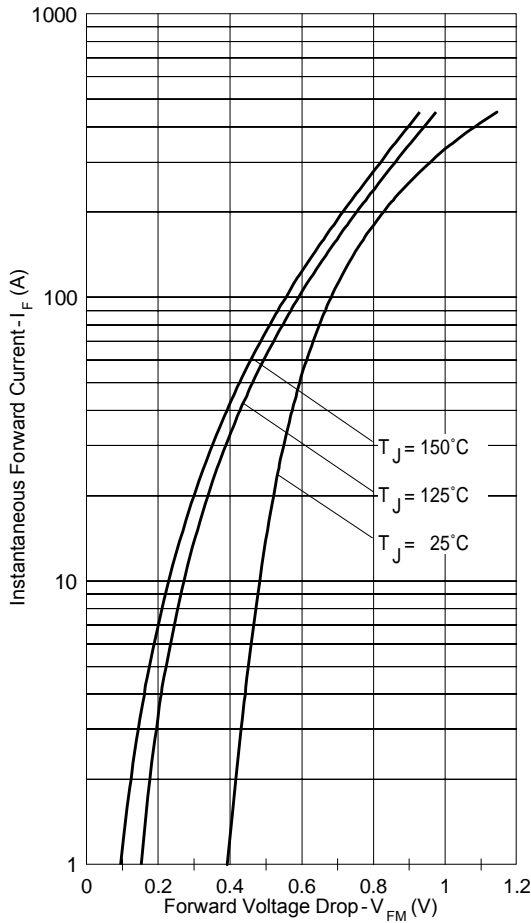

Fig. 1 - Max. Forward Voltage Drop Characteristics
| V_{FM} Max. Forward Voltage Drop (Per Leg) * See Fig. 1 (1) | 0.68 | V | @ 100A $T_J = 25^\circ\text{C}$ |